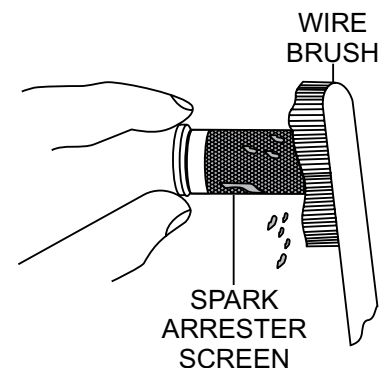

Figure 36. Cleaning The Spark Arrester
3. Carefully remove carbon deposits from the spark arrester screen (Figure 36) with a wire brush.